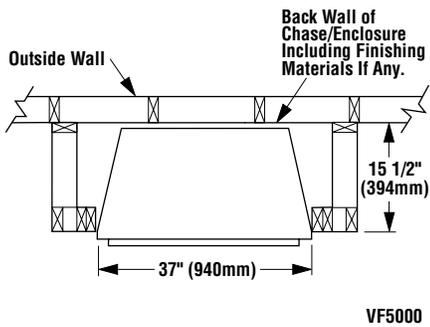
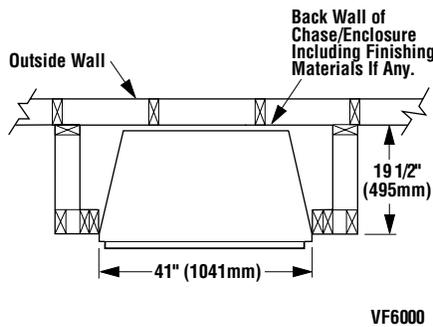

Figure 4
Figure 7
**Note:** Framing dimensions in Figures 4 - 9 are calculated for a nailing flange depth of 1/2" (13 mm).
**Step 1.** Frame VF5000 appliance enclosures as illustrated in Figures 4, 5 and 6. Frame VF6000 appliance enclosures as illustrated in Figures 7, 8 and 9 for surround installations proceed to Step 8.